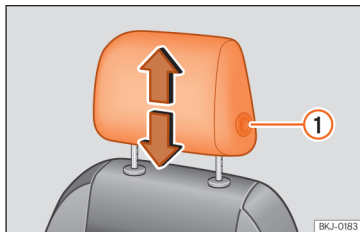
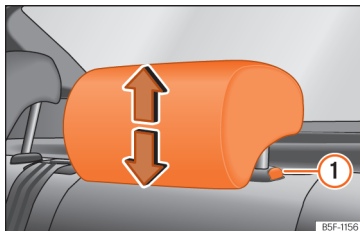

Fig. 104 Front seat: headrest adjustment.
Fig. 105 Rear headrest: headrest adjustment. »
- Move the headrest up or down in the direction of the corresponding arrow. Regarding the rear headrest, to both raise and lower, press the button »» Fig. 104 ①; for the rear headrests it is only necessary to press the button »» Fig. 105 ① to lower them »» ⚠ in Introduction on page 125.